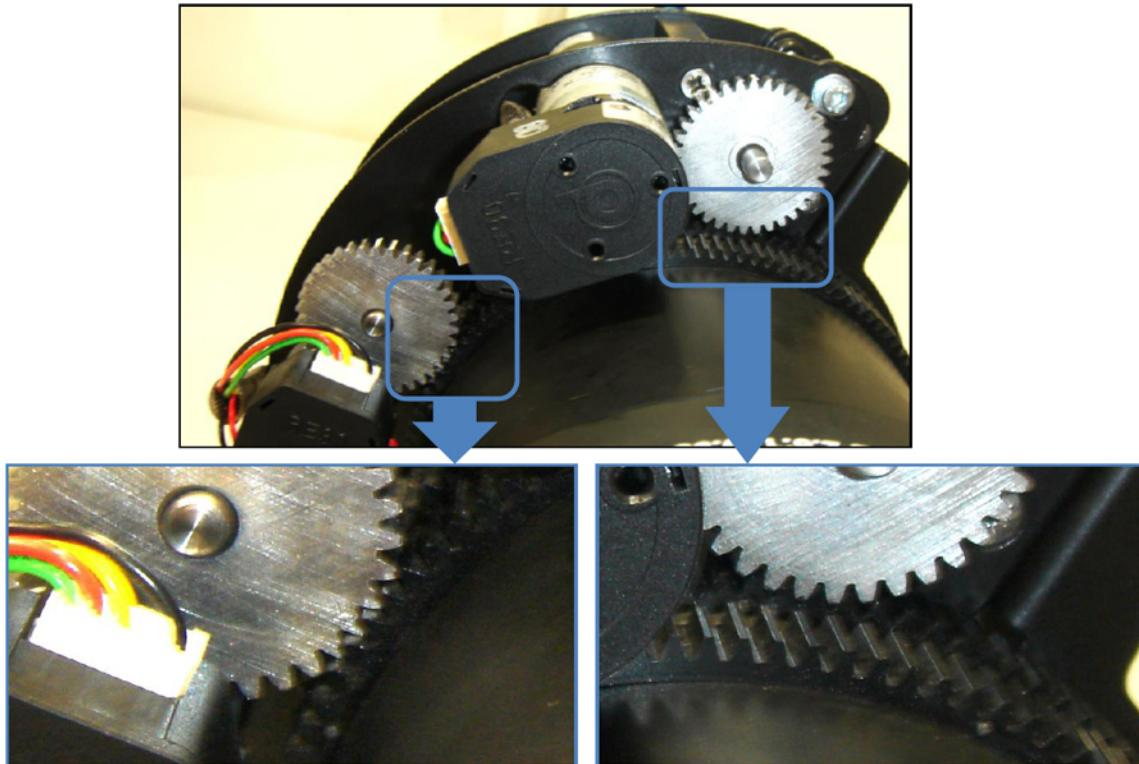

Figure 3-11 Engage Gears
8. Allow the motor gears to mesh with the lens gears. (**Figure 3-11**)